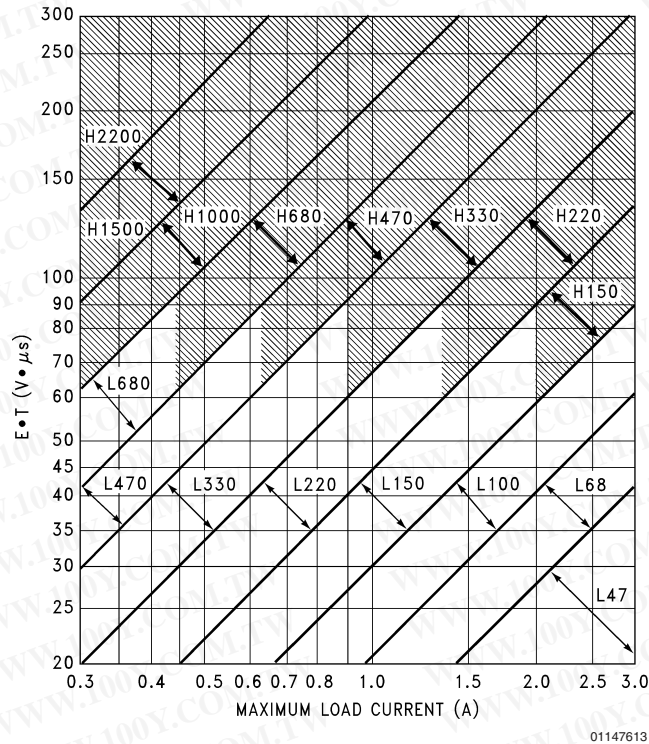

FIGURE 7. LM2576(HV)-ADJ
B. Use the $E \cdot T$ value from the previous formula and match it with the $E \cdot T$ number on the vertical axis of the **Inductor Value Selection Guide** shown in *Figure 7*. C. On the horizontal axis, select the maximum load current. D. Identify the inductance region intersected by the $E \cdot T$ value and the maximum load current value, and note the inductor code for that region. E. Identify the inductor value from the inductor code, and select an appropriate inductor from the table shown in *Figure 9*. Part numbers are listed for three inductor manufacturers. The inductor chosen must be rated for operation at the LM2576 switching frequency (52 kHz) and for a current rating of $1.15 \times I_{LOAD}$. For additional inductor information, see the inductor section in the application hints section of this data sheet.
The inductor value selection guides in *Figure 3* through *Figure 7* were designed for buck regulator designs of the continuous inductor current type. When using inductor values shown in the inductor selection guide, the peak-to-peak inductor ripple current will be approximately 20% to 30% of the maximum DC current. With relatively heavy load currents, the circuit operates in the continuous mode (inductor current always flowing), but under light load conditions, the circuit will be forced to the discontinuous mode (inductor current falls to zero for a period of time). This discontinuous mode of operation is perfectly acceptable. For light loads (less than approximately 300 mA) it may be desirable to operate the regulator in the discontinuous mode, primarily because of the lower inductor values required for the discontinuous mode.